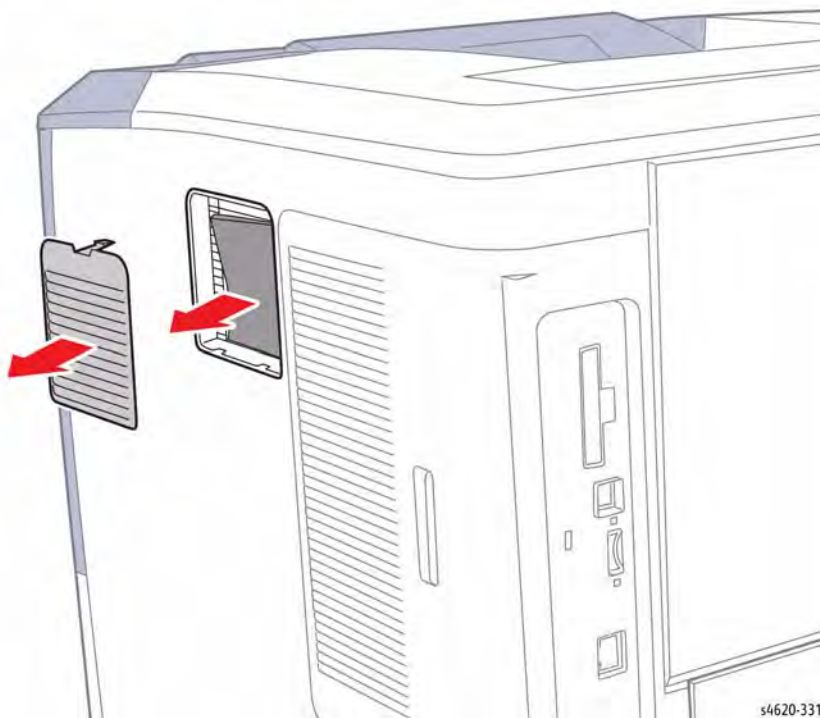

Figure 1 Remove the Right Seal Filter
1. Release the hook that secures the filter cover to the Right Cover and remove the filter, Figure 1.